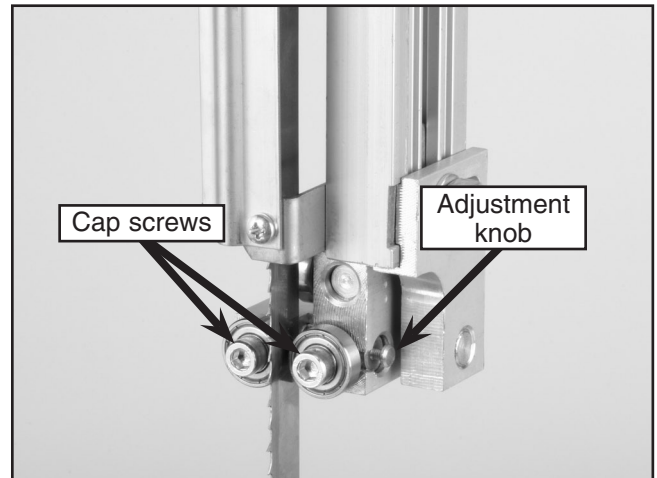

Figure 10. Blade guide controls.
- Familiarize yourself with the blade guide controls shown in **Figure 10**.